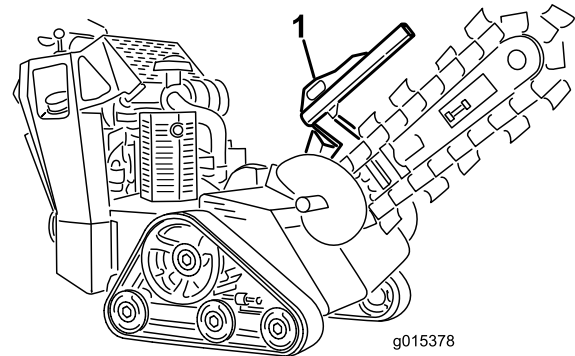
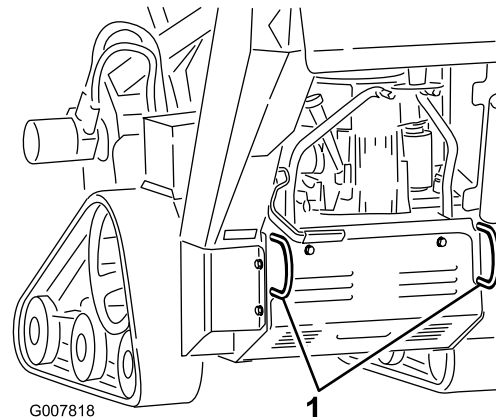

Figure 22
Figure 23
3. Secure the machine to a trailer with chains or straps using the tie-down/lift loops at the front and rear of the machine (Figure 22 and Figure 23). Refer to your local ordinances for trailer and tie-down requirements.
You can lift the machine using the tie-down/lift loops as lift points (Figure 22 and Figure 23).